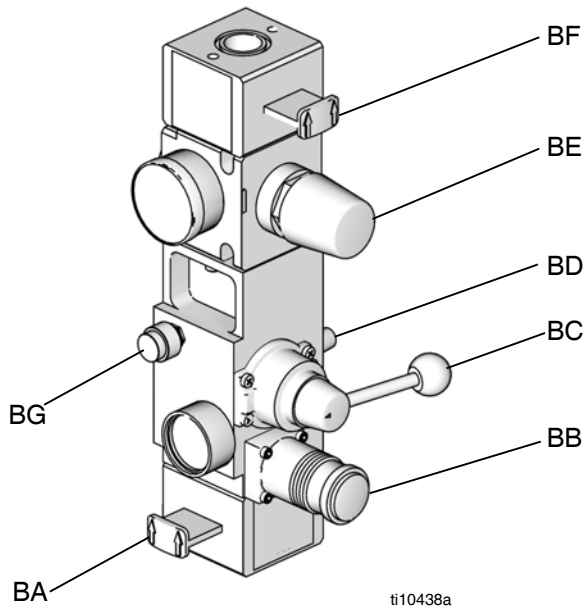

FIG. 3. Integrated Air Control Module
| G Integrated Air Controls (see FIG. 3)                                    | U Air Line Drain Valve (not supplied)         |
- G Integrated Air Controls (see FIG. 3)
2. **For D200s, D200, S20, and D60 Air Controls:** See FIG. 3, page 12.
- a. Close the air motor slider valve (BF) and the main air slider valve (BA).
- c. Jog the director valve (BC) up and down to bleed air from ram cylinders.